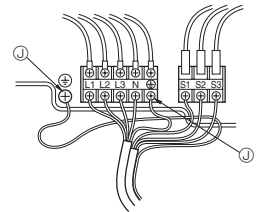

Fig. 7-2
7.1. Outdoor unit (Fig. 7-1, Fig. 7-2)
- ① Remove the service panel.
- ② Wire the cables referring to the Fig. 7-1 and the Fig. 7-2.